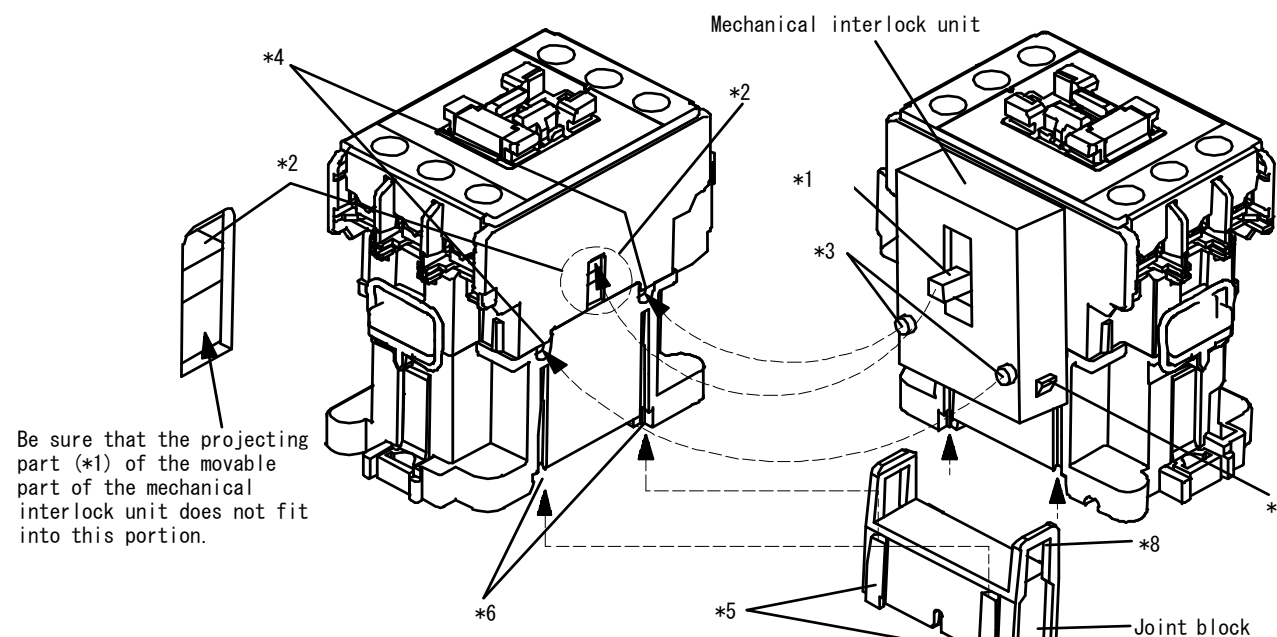

Fig. 1
2.1 Mechanical interlock Unit (Fig.1)